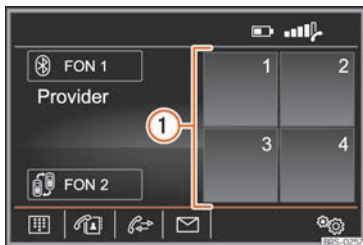

Fig. 230 PHONE main menu.
The speed dial keys » Fig. 230 ① can be assigned a telephone number from the phone book.